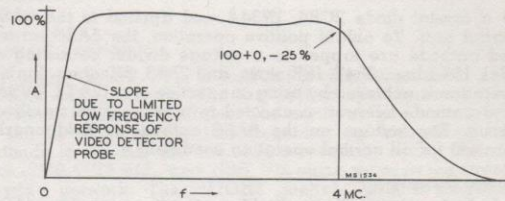

Figure 13—Over-all Response Curve
- Connect the diode detector to pin 8 of 1V3A, 6U8. Reduce the sweep output as required to prevent overloading. The over-all response should be flat within -25% to 4 mc., as shown in figure 13. Repeat the alignment procedure if necessary. Restore all circuit components and connections changed or removed when alignment is completed.